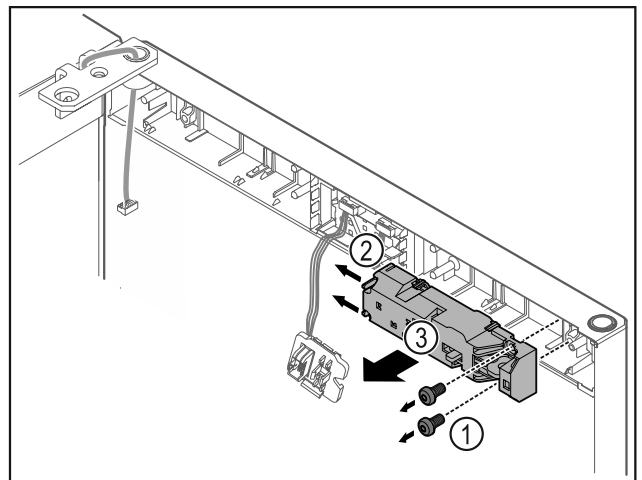

Fig. 23
- ▶ Remove the screws Fig. 23 (1).
- ▶ Press the latching lugs Fig. 23 (2) to the side and take off the remote lock Fig. 23 (3).